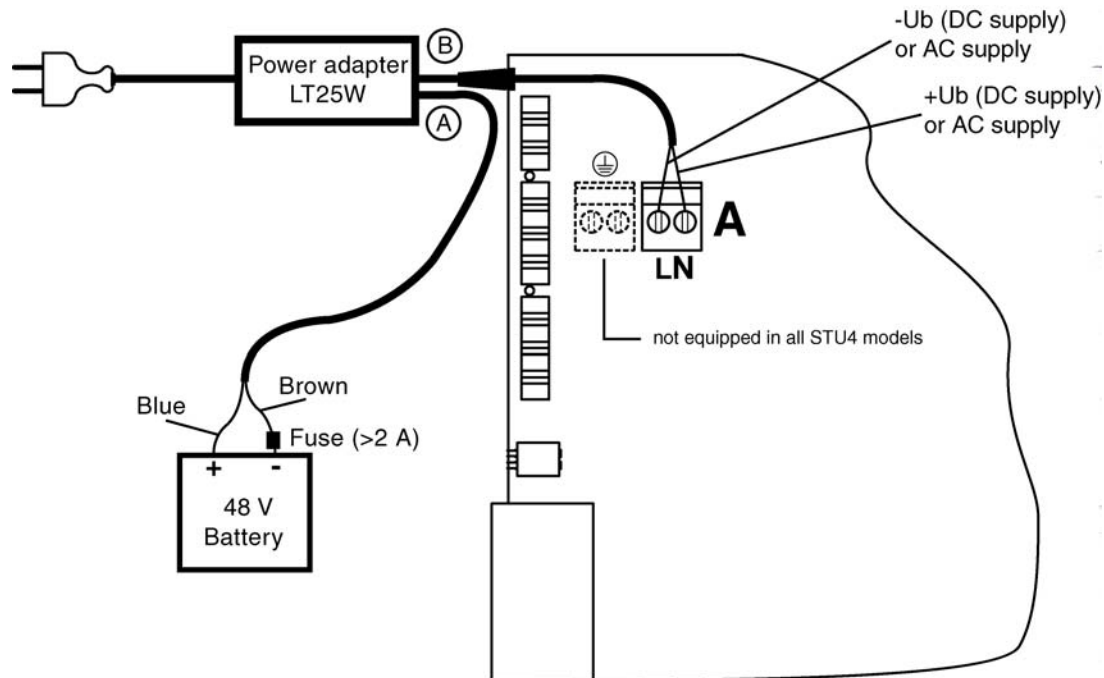

Fig. 2.155 Connecting the battery to desktop power adapter LT25W
It is also possible to use a backup battery for redundant power feeding of the LT25W. Therefore the power adapter has to be modified as described in section “Redundant battery connection LT25W” (Fig. 2.155).
8. Connect the battery (Fig. 2.155)